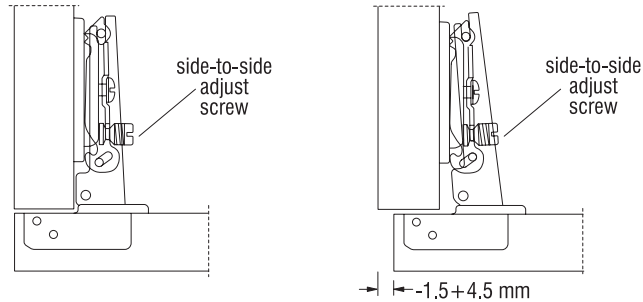

Figure 8
3. For **side-to-side adjustment**, turn the side-to-side adjust screw in or out. The screw works in conjunction with the inner leaf of the hinge arm to move the door back or forth without a change in gap between the door and the cabinet (Figure 8).